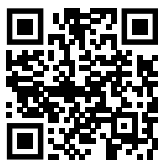

Fig. 108
- Open Liebherr SmartMonitoring Dashboard. (see Fig. 108)